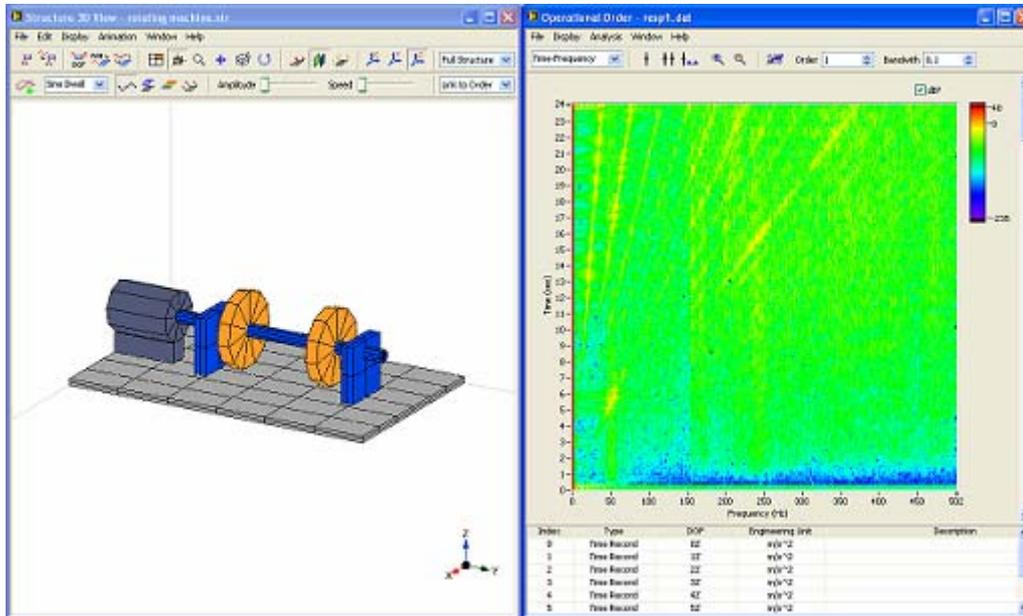

Figure 4-7 Order-based ODS animation
- Execute menu **File | Load...** in the operational order window, and load **resp1** in the data block file list. The time-frequency spectral plot is displayed in the window, as Figure 4-7 shows.